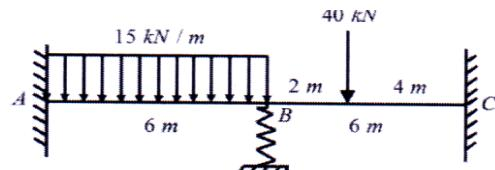

Figure 4
- b) Analyze the continuous beam ABC as shown in Figure 4 using stiffness matrix method. The beam is fixed at A and C and supported by spring at B. Take EI constant. Draw BMD. [14]